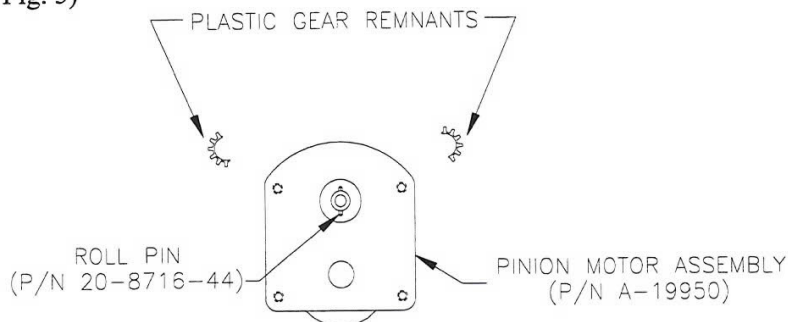

FIGURE 5
5. At this point remove any plastic remnants of the damaged pinion. This will allow the roll pin that attaches the pinion gear to the motor shaft, to be exposed. (See Fig. 5)